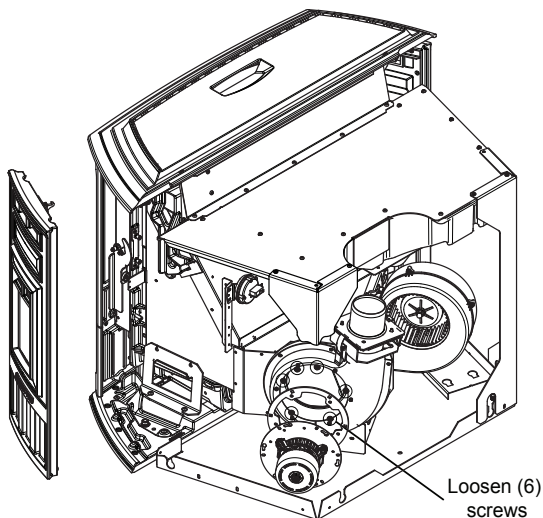

Figure 34.1
4. Loosen fasteners of blower motor and impeller (**Figure 34.1**):
5. Holding the body of the motor, rotate the impeller counter-clockwise until the blades line up with the opening in the housing and remove the motor and impeller (**Figure 34.1**).